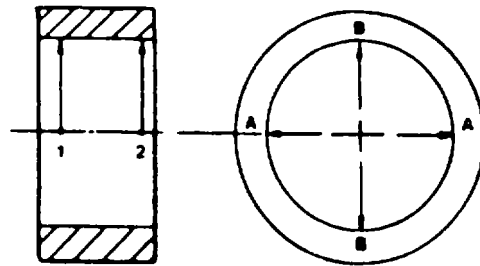

Figure 6-5. Measuring Connecting Rod Bushing Inside Diameter.
- (2) Using allen socket, remove two allen screws (5) and remove bottom half of connecting rod (6).
- (3) Remove top half of connecting rod (6) from top of crankcase.
- (4) Remove two bearing halves (7) from both halves of connecting rod (6).
- (5) Refer to figure 6-5 and measure the inside diameter of connecting rod bushing. Measure at points 1 and 2 along axes A and B. Measurements should be .9858 to .9877 inch (25.040 to 25.073 mm). If measurement is over .9877 inch (25.088 mm) limit, replace rod bushing.
- (6) Using a arbor press, Dress bushing (8) from connecting rod (7).